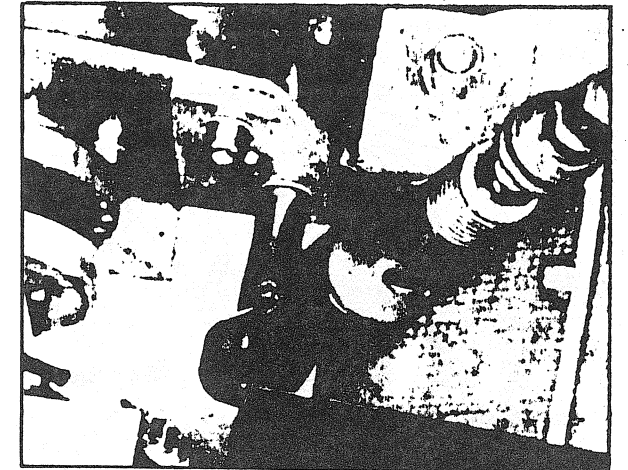

FIGURE 2
- Unscrew the six (6) capscrews from rear mount bracket and engine support (fig. 2).